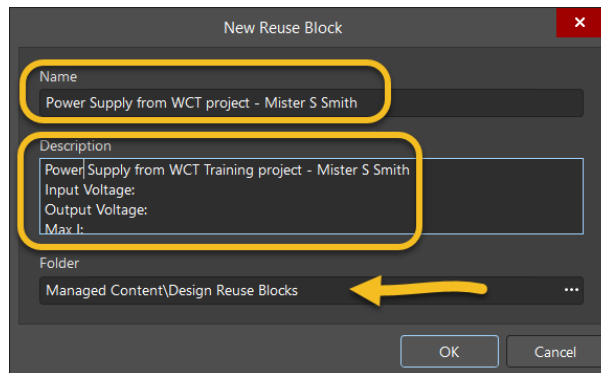

Figure 8. Save the New Reuse Block
- c) In the dialog *New Reuse Block*, using Figure 8 as example.